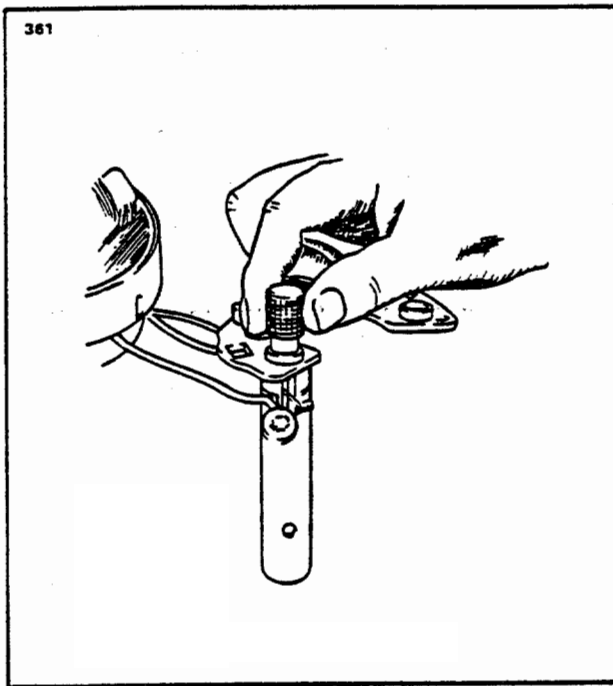

Figure 11-5. Removal of Rectifier
d. Remove the nuts, lock washers, flat washers and insulators from the output and auxiliary terminal studs. Note carefully the correct assembly of the insulator washers and bushings. Using the special tools shown in Figure 11-5, support the end head and press out the three rectifiers. The end head can now be separated from the stator assembly.